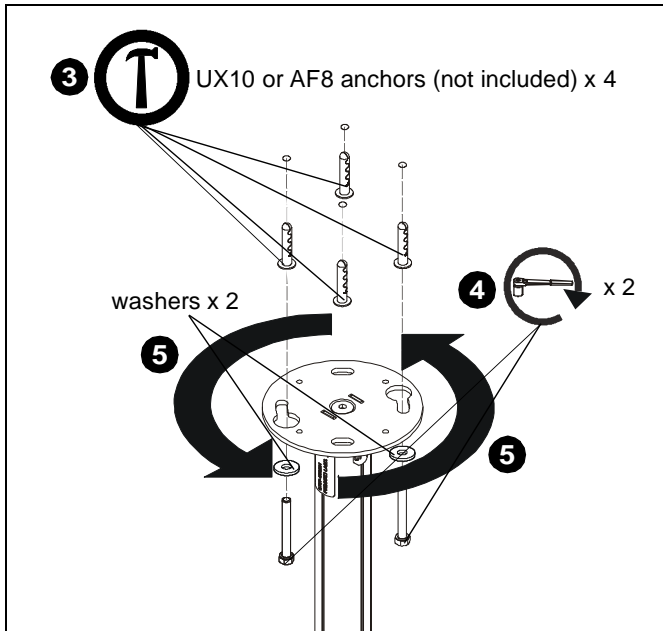

Figure 7
1. Using ceiling plate (A) as a template, mark locations of four pilot holes on ceiling.
3. Install four UX10 or AF8 anchors into four drilled holes. (See Figure 7)
4. Loosely install two 5/16" x 2 3/4" bolts (not provided) through two 5/16" flat washers (not provided) into opposite anchors. (See Figure 7)
5. Place ceiling plate (A) up to ceiling and turn until bolts hold plate up in position. (See Figure 7)